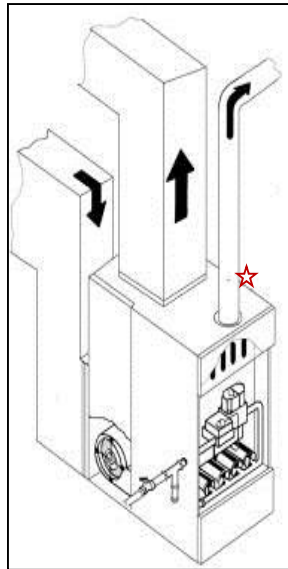

Figure 16: Combustion appliance: Drill a small vent hole where indicated by the red star
1. Drill a small hole in the vent pipe at the location identified in Figure 16.